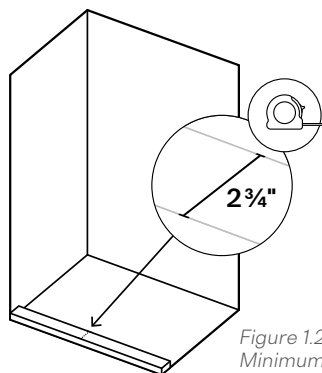

Figure 1.2 Eclipse Round Slider Minimum Threshold Width
- d. **Verify Threshold Width** - If your shower installation features a raised threshold, the completed threshold must be a minimum width of **2 3/4"** or this model will not fit your space. (Fig. 1.2)